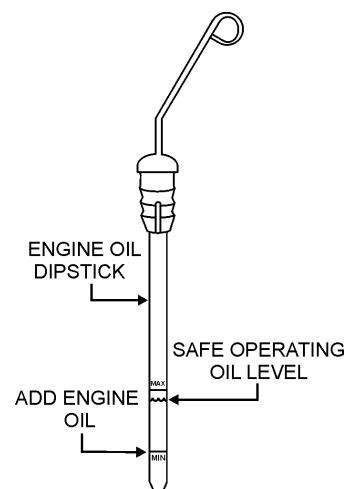

Figure 9. Engine Oil Dipstick Level
3. Check the oil level shown on the dipstick (Figure 9).